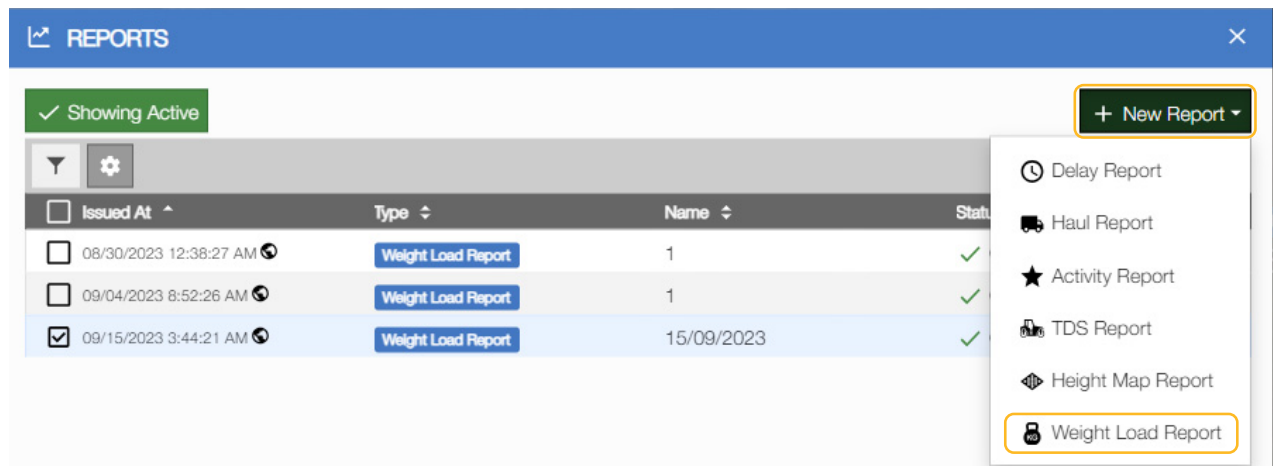

Figure 5-3: Sitelink3D Reports Menu
1. Select **Site** menu > **Reports** on the Sitelink3D website to open the **Reports** dialog (Figure 5-3).